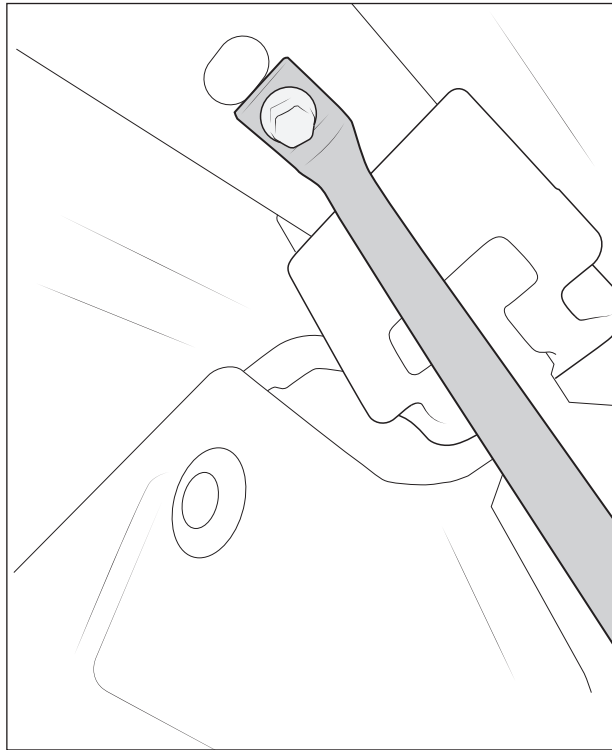

Figure 6
- Loosely install the next pencil brace, part number AT1P0142, to the frame with an M8 bolt (fig. 6).